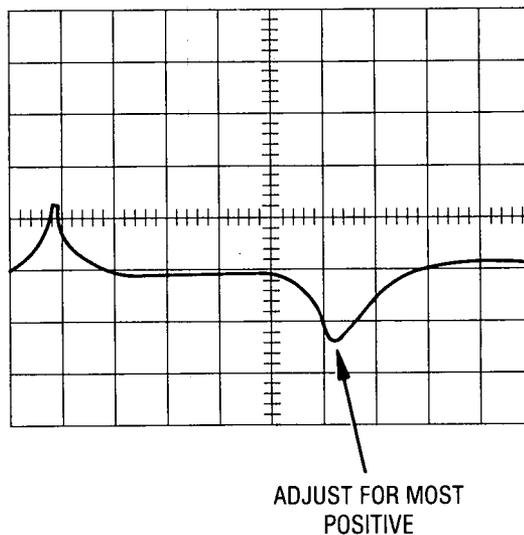

Figure 5-70. Pulse Input vs. Sample/Hold Waveform
27. Adjust A22R21 (DELAY) for the most positive voltage at the dip. Refer to Figure 5-70.